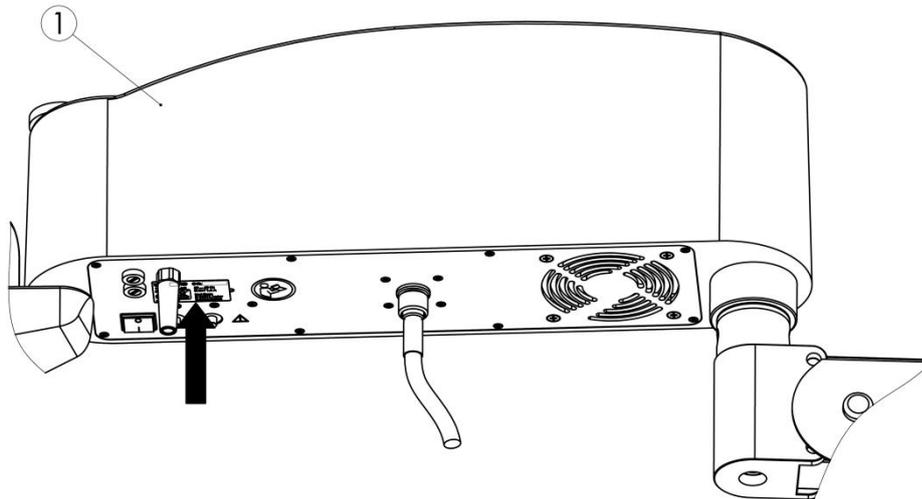

Figure 8
The nameplate is used for accurate identification of your product. It may not be removed or modified. Figure 8 shows the position of the nameplate. It is located on the flat side of the swivel arm (1), regardless of device variant.